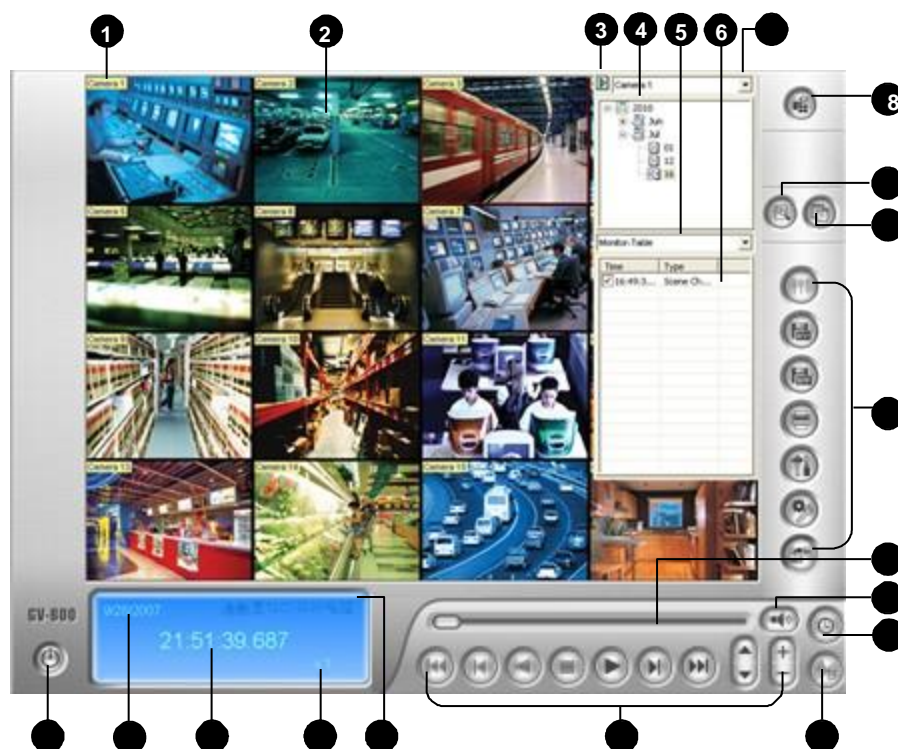

Figure 4-1 The ViewLog Window
Without further settings you can play back the event by clicking the **Play** button on Playback Panel. Click the **View Mode** button (No. 8, Figure 4-1) to switch the current view mode to a multi-channel view. Use controls on Playback Panel to view the event in the way you want. Move the slider in Playback Meter (No. 12, Figure 4-1) forward and backward to navigate video frames.
To play back multiple events, keep pressing **[CTRL]** on the keyboard and highlight the desired events on the Video Event List (No. 6, Figure 4-1). Then click the **Play** button to play these events. To select events from different dates, click the date from the Date Tree (No. 4, Figure 4-1). Events of that date will be listed in the Video Event List.
Click the **View Mode** button (No. 8, Figure 4-1) any time when you want to change the current view mode.
1. Select a desired video event from Video Event List (No. 6, Figure 4-1), and then right-click it to call up a menu as shown below.
1. Click the **Advanced** button (No. 9, Figure 4-1) and select **Bookmark**. The Bookmark window appears.